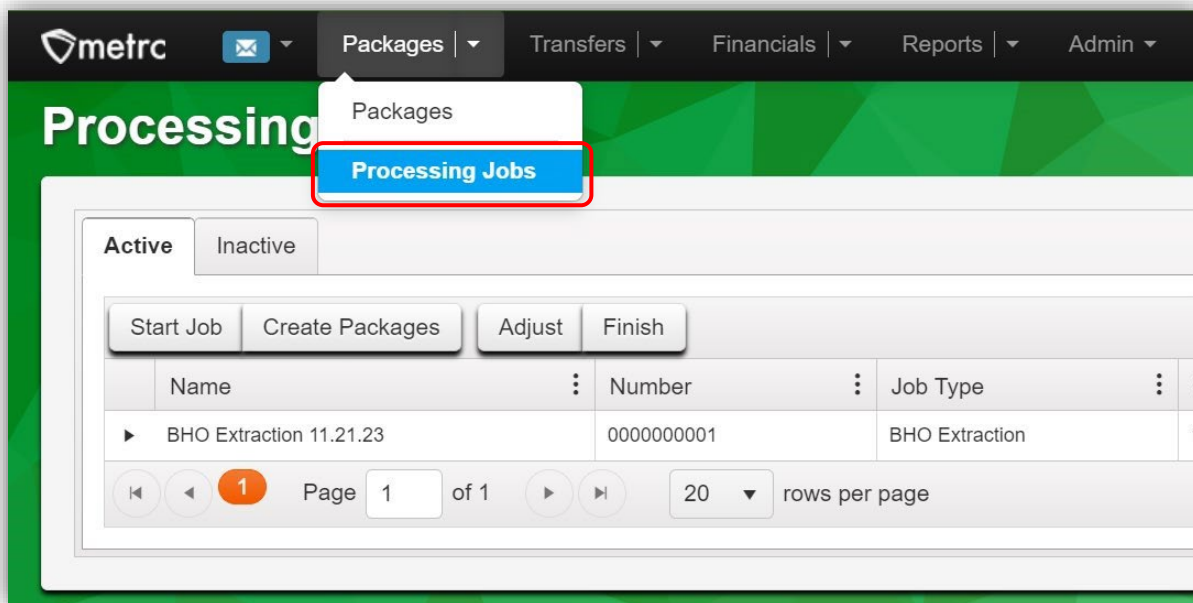

Figure 8: Processing Jobs grid in Packages dropdown
- Choose to the Processing Jobs option found under the Packages area dropdown in the Navigational Toolbar – **see Figure 8.**